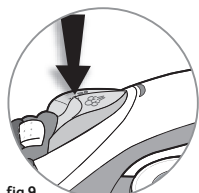

fig.9
- The **Spray button (fig.9)** will release a mist of water onto your fabrics. Use this to remove stubborn wrinkles.